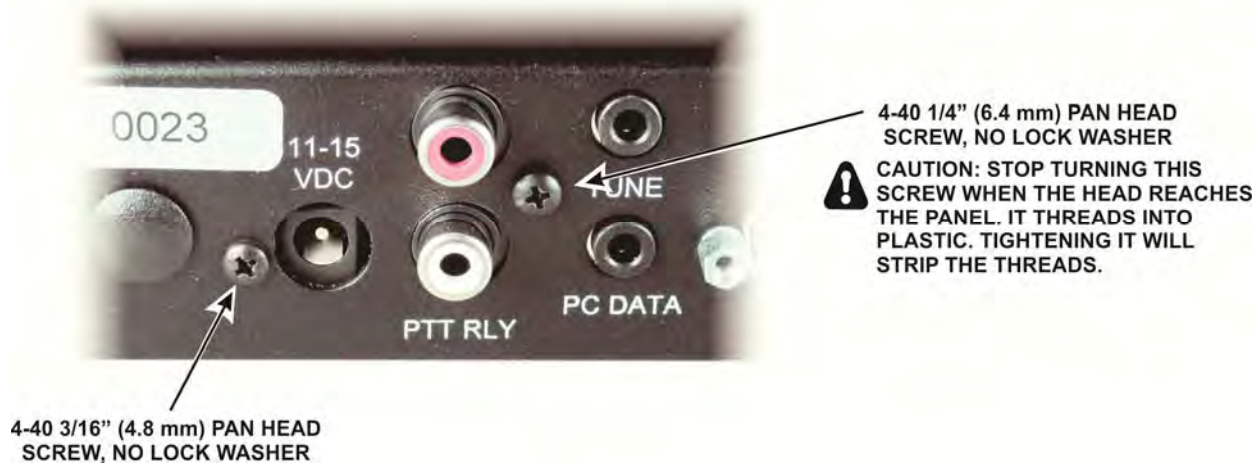

Figure 26. Installing Rear Panel Pan Head Screws.
- Install the two pan head screws shown in Figure 26. **Stop turning the screw indicated when the head reaches the rear panel. It threads into plastic and the threads will easily strip.**